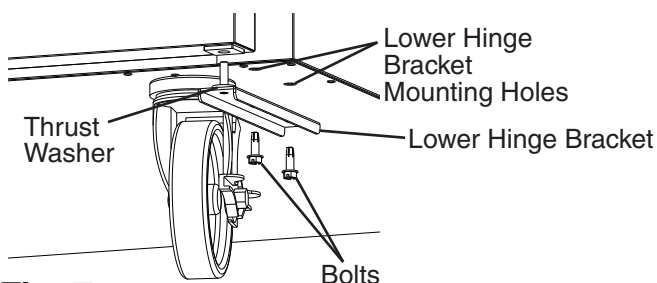
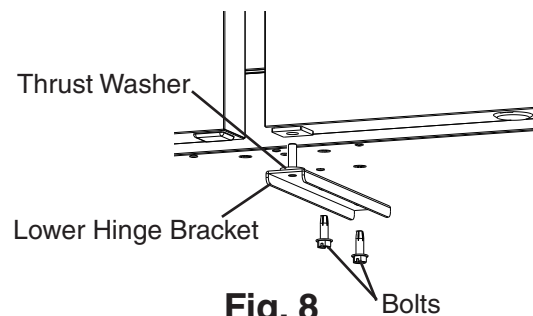

**Fig. 5**
**Fig. 6**
- 2) With the door closed, loosen, but do not remove, the upper hinge bracket outer screw. See Fig. 5. Next, open the door to the fully open position and remove the upper hinge bracket inner screw. See Fig. 6.